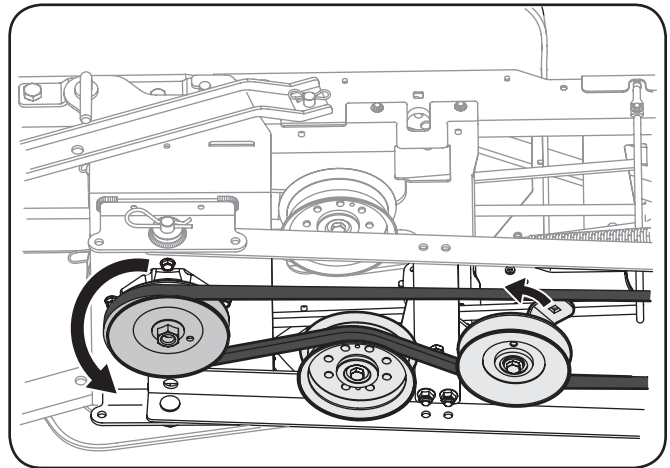

Figure 3-25
6. Route the auger assembly's belt around the carriage spindle pulley as shown in Figure 3-25.